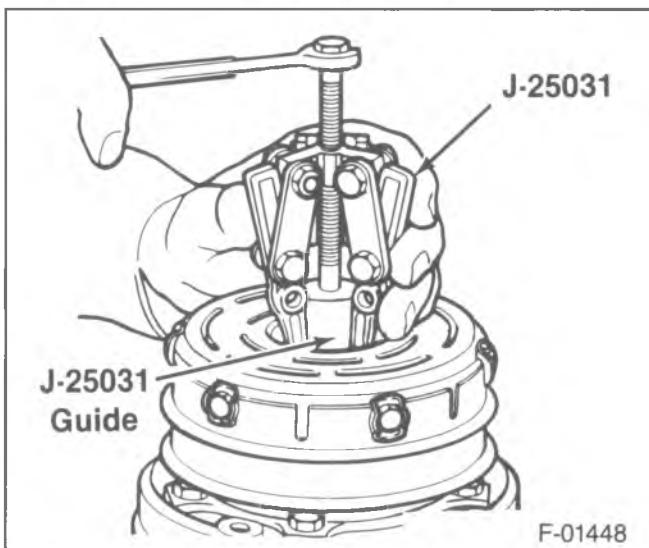

Figure 9—Removing the Clutch Rotor Assembly
- Place J-25031 down into the rotor until the puller legs engage the recessed edge of the rotor hub (figure 9).